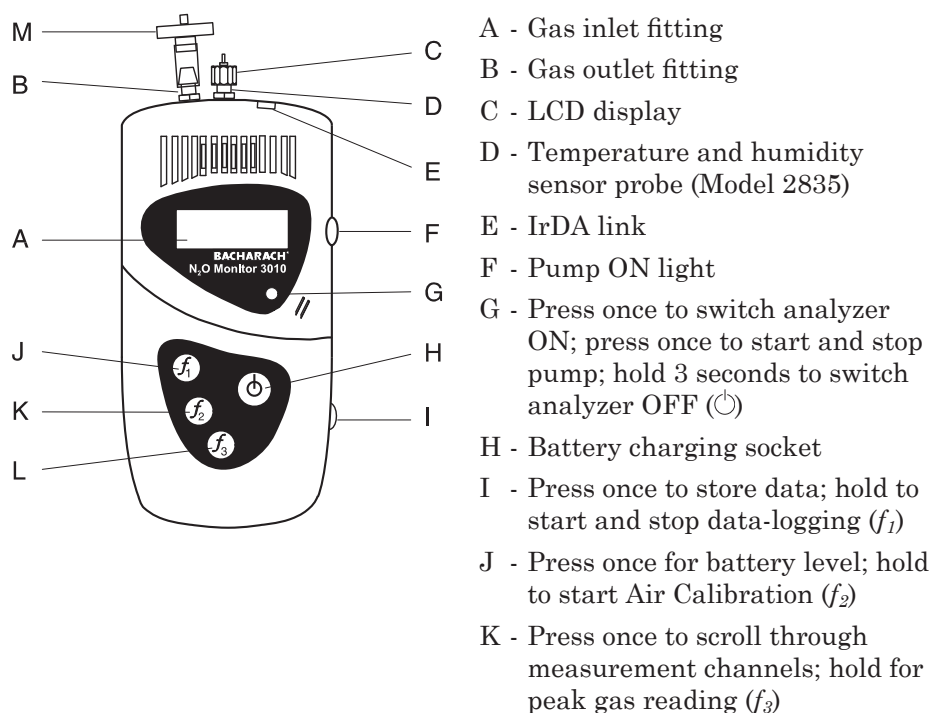

Figure 1. Components of the CO₂ Analyzer
Always ensure that the analyzer's gas inlet connector (Figure 1, Item A) and gas exhaust (Figure 1, Item B) are unobstructed and open to the atmosphere. Be careful not to breath directly on the analyzer while taking a measurement; otherwise, inaccurate readings will result.
With the analyzer already switched ON, momentarily pressing the  button will start and stop the internal pump. The optional Extended Probe Assembly with in-line filter (P/N 0019-3310) can be connected to the gas inlet fitting (Figure 1, Item A) on the top of the analyzer for drawing gas samples from hard-to-reach areas. If desired, a section of 1/8" I.D. tubing can be connected to the gas outlet fitting (Figure 1, Item B) to exhaust the gas being sampled to an outside area.
Each measurement is displayed separately on the analyzer's LCD (Figure 1, Item C). The measurement displayed is selected by pressing the f_3 button.
2. Plug the charger into the appropriate AC wall socket (or 12 VDC when using the optional vehicle charger). Then plug the charger's output connector into the analyzer's charging socket (Figure 1, Item H).
Before beginning the charging process, first ensure that the analyzer is switched OFF. Next, plug the supplied charger into the appropriate AC wall socket (an optional 12 VDC vehicle charger is also available). Then plug the charger's output connector into the analyzer's charging socket (Figure 1, Item H).